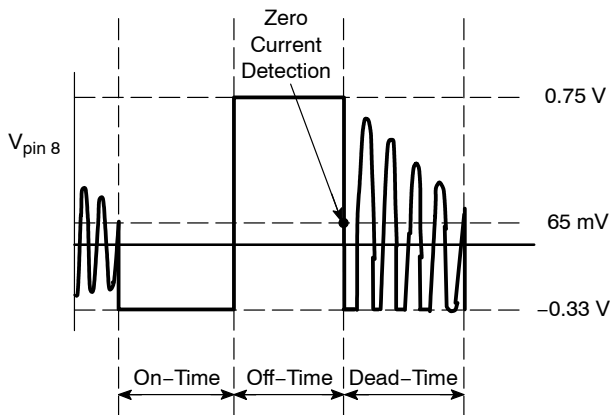
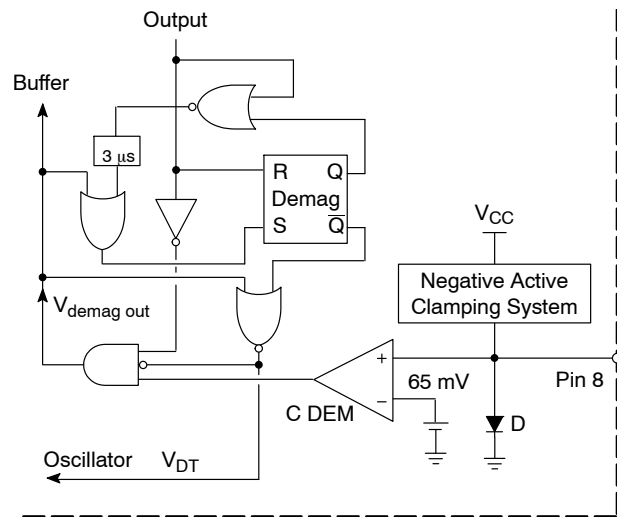

Figure 7. Demagnetization Detection
Figure 8. Demagnetization Block
- equal to zero for the dead-time with generally a ringing (refer to Figure 7).
A latch system is incorporated to keep the demagnetization block output level low as soon as a voltage lower than 65 mV is detected and as long as a new restart is produced (high level on the output (refer to Figure 8)). This process avoids that any ringing on the signal used on the pin 8, disrupts the demagnetization detection (refer to Figure 7). Finally, this method results in a very accurate demagnetization phase detection, and the signal V_{DT} drawn from this block is high only for the dead time. Therefore, an oscillator re-start and so, a new power switch conduction is only allowed during the dead-time.
The demagnetization detection can be inhibited by connecting pin 8 to the ground but in this case, a timer (about $3 \mu s$) that is incorporated to set the latch when it can not be set by $V_{demagout}$, results in a minimum off-time (refer to Figure 8).